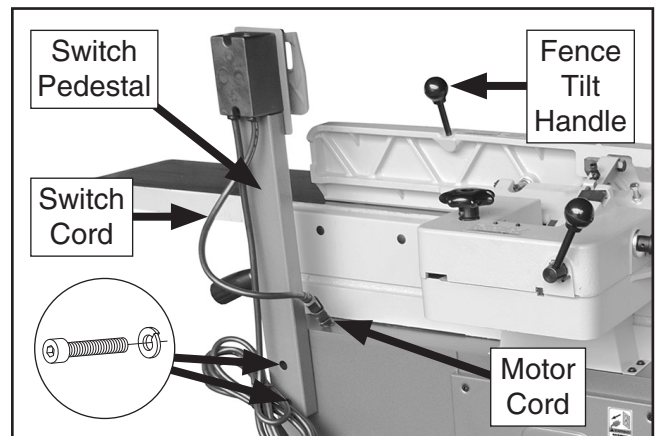

Figure 13. Switch pedestal attached to stand, cords connected, and fence tilt handle installed.
6. Reposition and secure switch pedestal (see **Figure 13**) in upright position with (2) M8-1.25 x 20 cap screws and (2) 8mm lock washers pre-installed on stand.
7. Connect switch cord to motor cord and install fence tilt handle (see **Figure 13**).